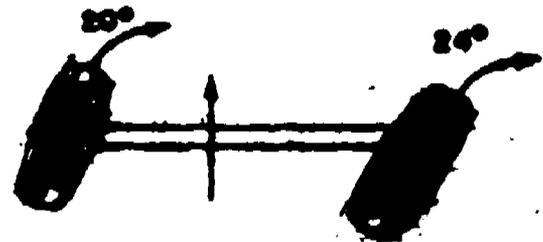

Figure 2
- 27. Figure 2 shows _____ steering geometry.